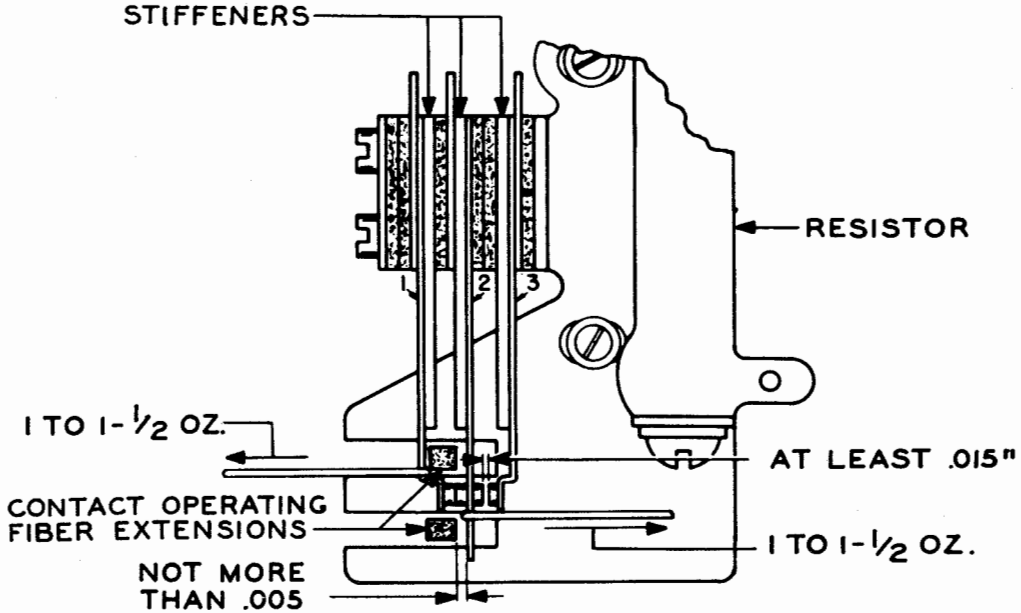

Figure 23
contact spring at the contact point and push or pull perpendicularly to the spring. See Figure 23.
To Adjust: Bend the stiffeners for contact springs No. 1 and No. 2. See Figure 23.
To Adjust: Bend contact springs No. 1 or No. 2. Recheck the requirements in 2.46. See Figure 23.
2.48 Contact Operating Fiber Extensions should move freely in their guide slots. There should be a clearance as specified in the figure between contact spring No. 2 and the right edge of the fiber tip when the rear contact-operating fiber extension is held to its extreme right position. See Figure 23.
To Adjust: Bend the stiffener for contact spring No. 3. See Figure 23.